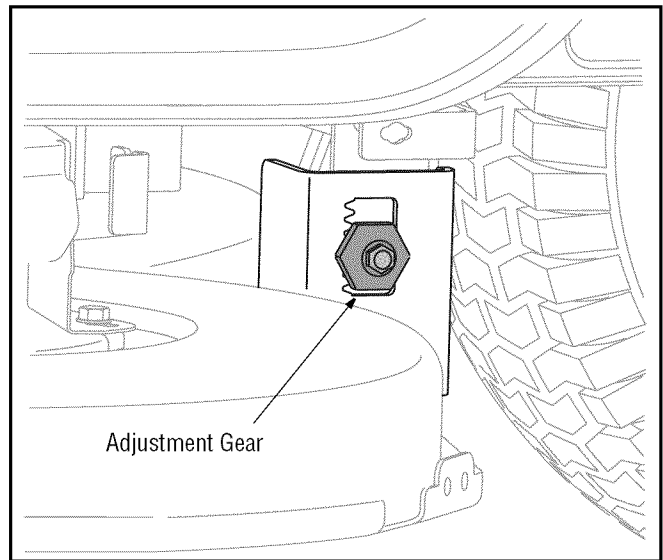

Figure 14
- Locate the jam nut and lock nut found on the front side of the stabilizer bracket. See Figure 14. After loosening the jam nut: Tighten the lock nut to raise the front of the deck; Loosen the lock nut to lower the front of the deck.
Loosen, but do NOT remove, the hex screw on the left deck hanger bracket. See Figure 14.